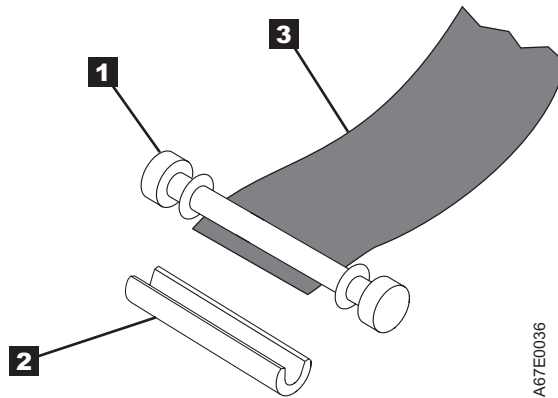

Figure A-10. Removing the C-clip from the leader pin. Use your fingers to push the C-clip from the leader pin.
5. On the leader pin (**1** in Figure A-10), locate the open side of the C-clip (**2**). The C-clip is a small black part that secures the tape (**3**) to the pin.